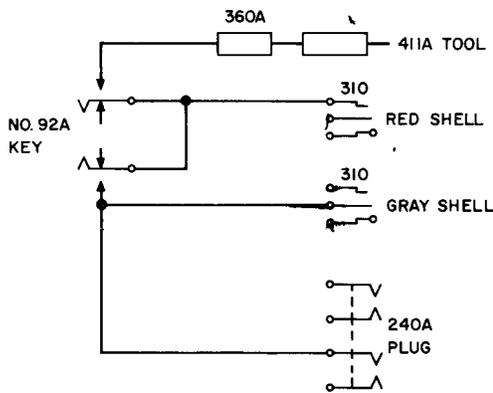

Fig. 1—
2.11 Special test cord, assembled locally as in Fig. 1, consisting of one 92A key, one 1W13B cord with one 360A tool removed and a 411A tool attached to the remaining 360A tool, one 1W7A cord with the 59 cord tip removed, one 1W5B cord with the KS-6780 connecting clip removed, and one 893 cord, 6 feet long, with a 240A plug connected
13	Insert 310 red-shelled plug of special test cord (Fig. 1) into battery supply jack located on trunk finder frame.